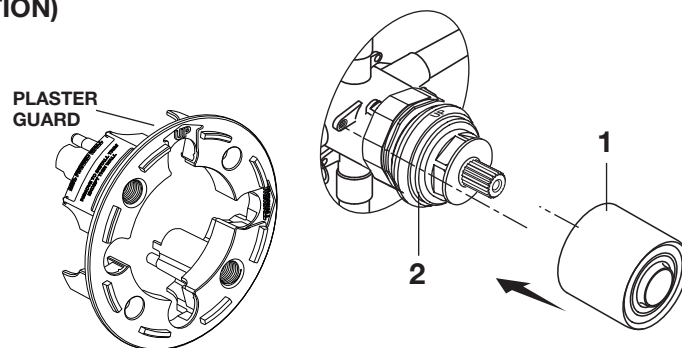

Figure 1.
- **Figure 1.** Push CAP (1) over VALVE CARTRIDGE (2) until seated against stop.